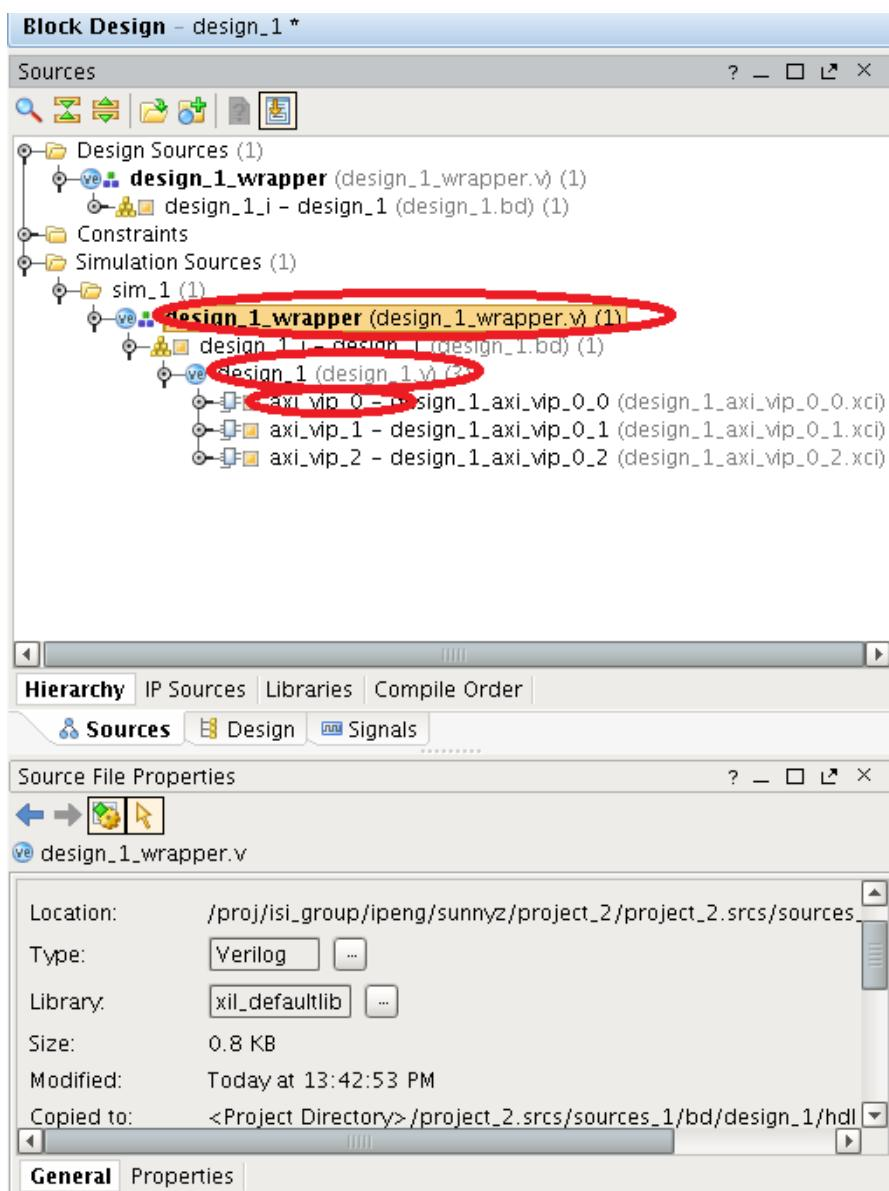

Figure 4-11: Complete Design Hierarchy
3. Figure 4-11 shows the complete hierarchy of the instances after the wrapper generates.